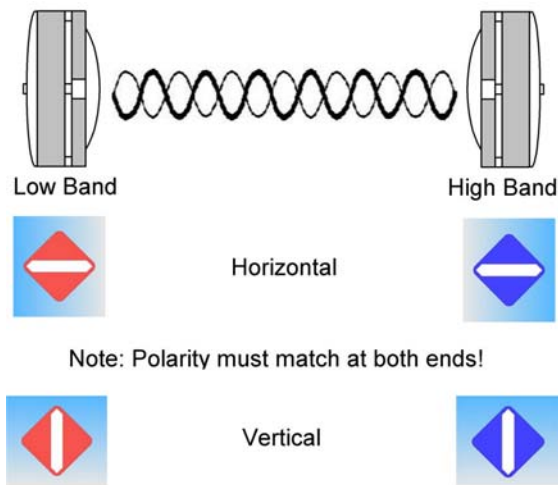

Figure 3-8: Polarization Diamond Orientations
<p>Note</p>	<p>Unpacked radios can be identified by the color of their labels found on their front faces or inside the unit after removing the plastic back weather cover. The blue color label indicates a high band radio and the red color label indicates a low band radio. See Figure 3-8 for further details.</p>
1. Determine desired polarization of the link, vertical or horizontal, and orient the radio accordingly using the diamond shaped polarity indication stickers shown in Figure 3-8.